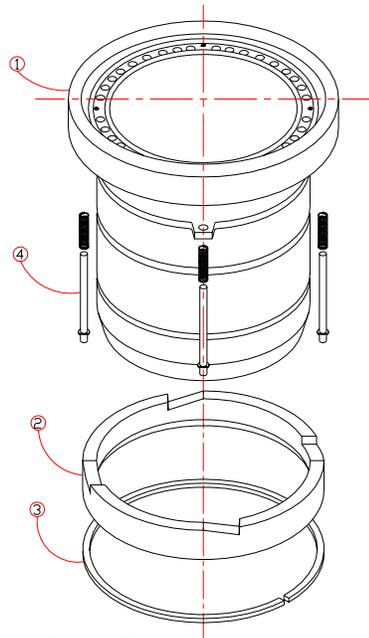
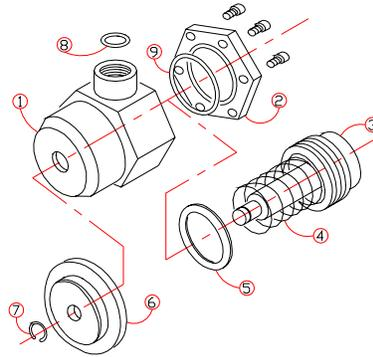
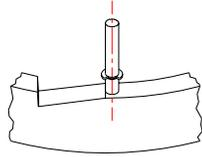

Fig. 17
Fig. 18
Fig. 19
- a) Invert the cylinder liner (Fig. 17) (1) and push down on the cam ring (2), this will expose the two halves of the stop ring (3) and facilitate removal.
- b) Remove the cam ring from the liner and remove the four pins along with the spring's (4).
- e) Disassemble the piston assembly (Fig. 18) by first removing the clip (7) and working plate (6) from the piston stem.
- f) Remove the end plate (2) securing bolts with extreme caution due to spring pressure; remove the piston (3) and spring (4).
- g) Clean and inspect the cylinder (1) and piston (3) for excess wear and the spring (4) for deformation.
- h) Replace the packing (5) and o-rings (8 & 9).
- b) Refit the cylinder liner on the oil pump side in accordance with M.P. 4, ensuring that the pins are seated on the highest portion of the cam (unloaded position) (Fig.19).